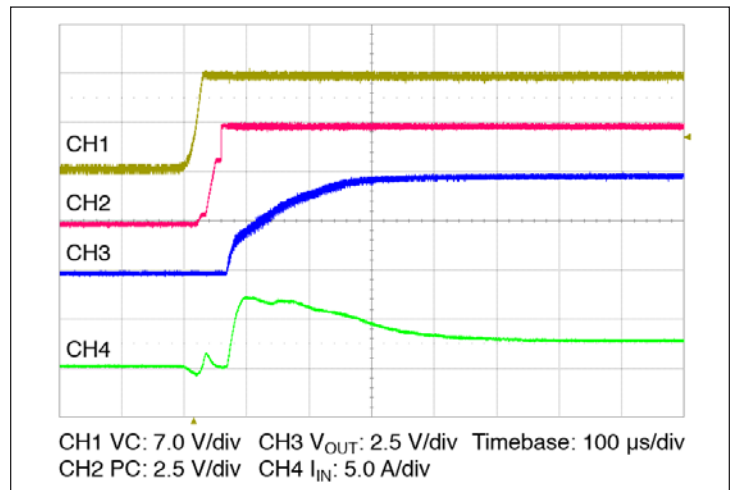

Figure 14 — Start up from application of VC;  $V_{IN}$  pre-applied  $C_{OUT} = 0 \mu$ F
- **Stand Alone Operation (VC applied after VIN):** In this case the module output will begin to rise upon the application of the VC voltage (See Figure 14). The Adaptive Soft Start circuit (See Section 10) may vary the output rate of rise in order to limit the inrush current to its maximum level. When starting into high capacitance, or a short, the output current will be limited for a maximum of 900 µsec. After this period, the adaptive soft start circuit will time out and the module may shut down. No restart will be attempted until VC is re-applied, or PC is toggled. The maximum output capacitance is limited to 2000 µF in this mode of operation to ensure a successful start.